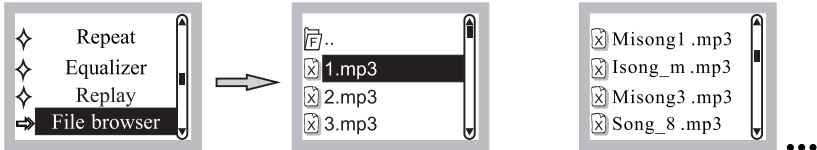

Fig. 15
- (I) File Browser Mode: Press PLAY/PAUSE  to enter track directory. Press PRV/TEN  or NEXT/ TEN  to select the desired song. Press PLAY/PAUSE to play the song tracks, Fig. 15.